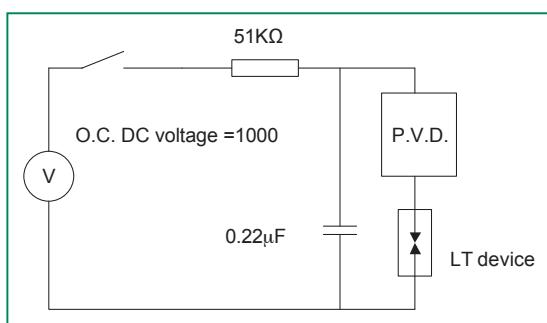
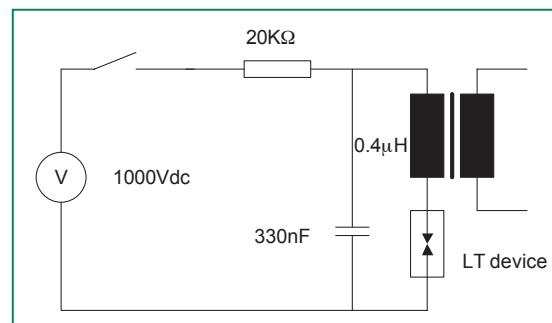

Fig 1. Recommended breakover voltage test circuit
Fig 2. Recommended Life Circuit
- (1) Measured on recommended test circuit (fig 1.)
(2) Measured @ 100 Volts DC
(3) Current required for transition to on-state
(4) Measured @ 1 MHz, zero Volt bias
(5) Measured on recommended test circuit (fig 2.)